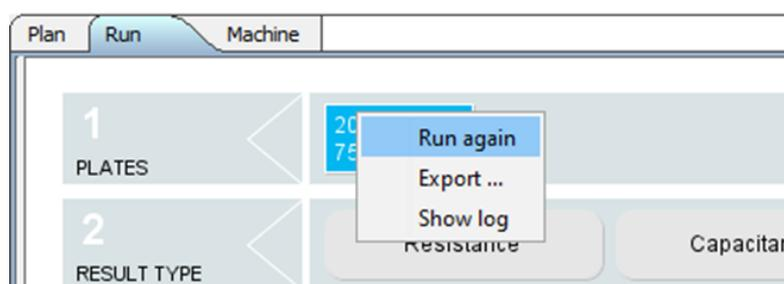

Figure 59 Right-click a plate run in the 'Run' tab to access the 'Run again' option for viewing and optionally re-running old protocols
3. Choose 'Run again' (see Figure 59)